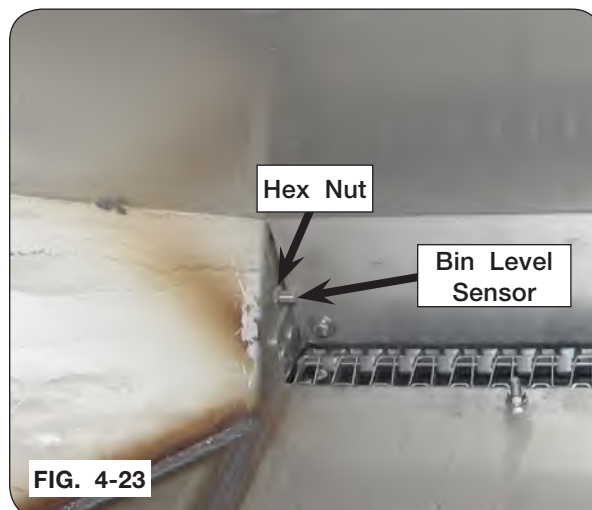

FIG. 4-23
3. Inside the box, insert new bin level sensor (9008806) through the front hole on the right-hand panel with connector end out of the box. (FIG. 4-23)
4. Attach bin level sensor to the inside of the right-hand panel using one hex nut (9008808). (FIG. 4-23)